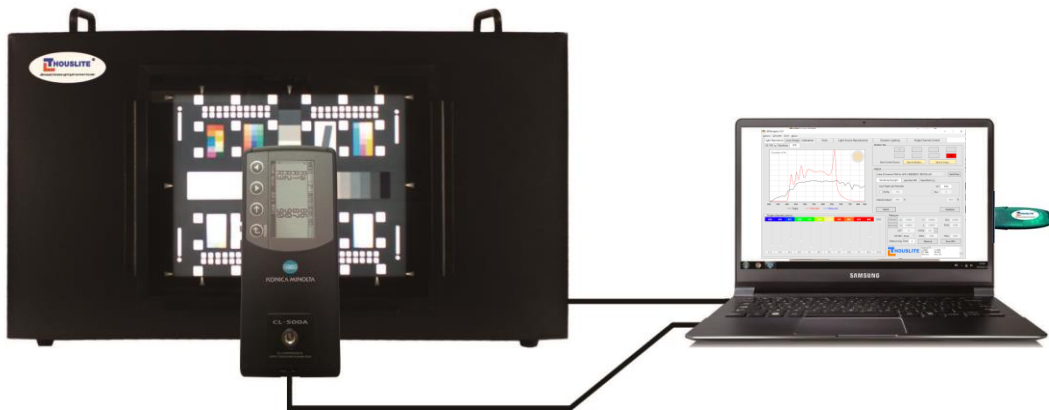

Fig. 3.5 Recommended setup
There are total three connections in the PC as shown in Fig. 3.5, including measure device, LEDTrans USB cable and dongle. Please refer Fig. 3.5 to setup LEDTrans system. The measure device in Fig.3.5 is CL500A, the setup is also applicable for THOUSLITE FS spectrometer. **Please note that the measure head should be close to the emitting surface of LEDTrans.** When conducting measurement, please turn off the artificial light and draw the curtains to reduce the environment light influence.
- When the **THOUSLITE FS** is connected, it requires dark calibration before first measurement. Firstly please screw the protection head as shown in Fig. 4.9, and then start the calibration. After calibration, typical measurement geometry is shown in Fig. 3.5. It is not necessary to load the white tile *SWF* in this setup, and the data measured by THOUSLITE FS spectrometer is illuminance (lx).
- When the **Konica Minolta CL500A** is connected, no calibration is required before first measure. Please place the CL500A at any user desired position to measure, same as Fig. 3.5. Once the measure device is calibrated and setup, measurement could be conducted by pressing *Measure*. The result will be shown in the below image. Meanwhile, the SPD curve will be illustrated in the Graphics area. The detailed R1 ~ R15 parameters can be shown after pressing the button ... near to *CIE Ra*. To calculate the metamerism index, the corresponding reference illuminant should be chosen firstly.